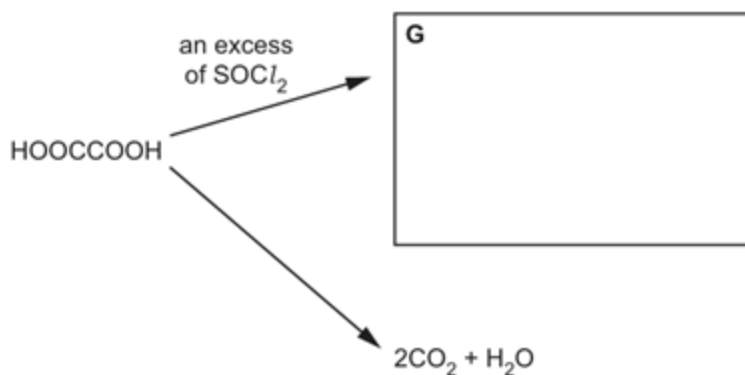

Fig. 6.1
- 1 Fig. 6.1 shows two reactions of ethanedioic acid, HOOC-COOH.